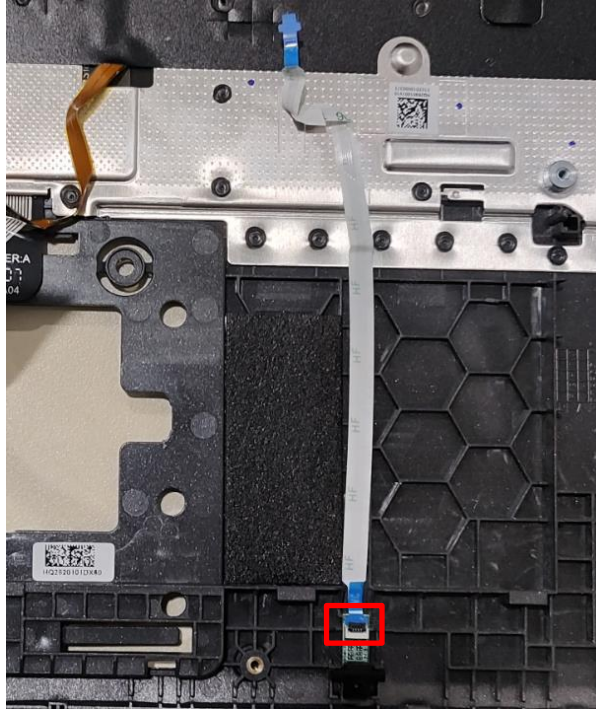

Figure 3-29. 3RD MIC Removal
1. Disconnect 3RD connect and remove 3RD FFC. (Figure 3-29).